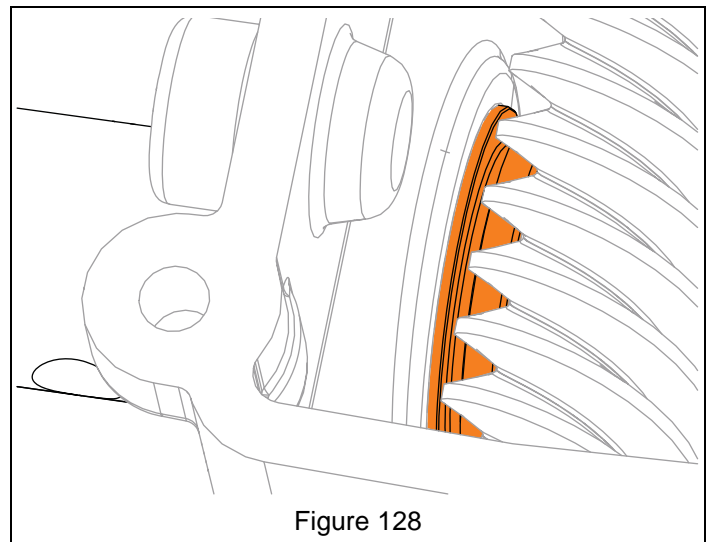

Figure 128
14. With a driver, such as a 1 1/4" deep-well socket, drive bushing into gearcase until groove is just beyond interior gearcase wall. See Figure 128.